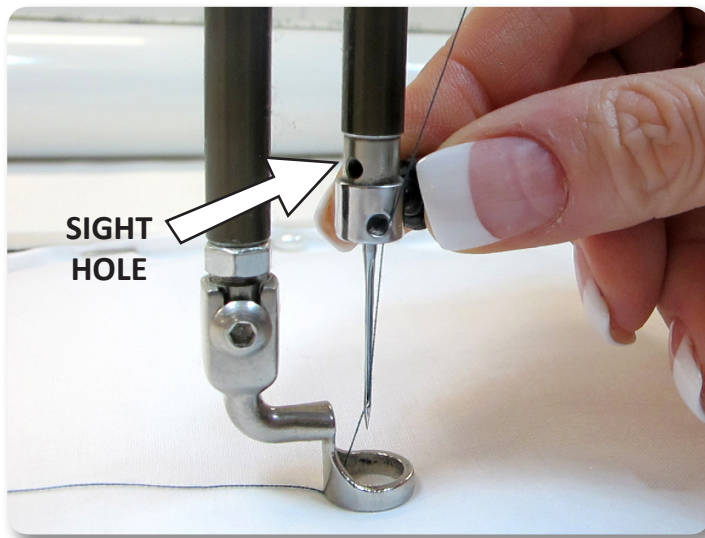

Figure 7
3. Loosen the needle-bar clamp thumb screw (Figure 7).
4. With the scarf (small ground out section/dip on the back side of the needle just above the needle eye) facing the rear hand wheel side of the machine, and the long groove down the front of the needle facing the bobbin case side (see Figure 7), push the needle all the way up into the needle bar – until it can go no farther. Look into the sight hole to verify that the butt of the needle reaches the top of the sight hole.
**IMPORTANT:** Check the needle to confirm that it is fully inserted. The needle bar has a stop/sight hole above the needle bar clamp screw – make sure the needle is touching the top of the stop/sight hole (Figure 7). If it is not, the machine timing will be off and it may be possible for the needle to collide with internal parts causing damage not covered by warranty.